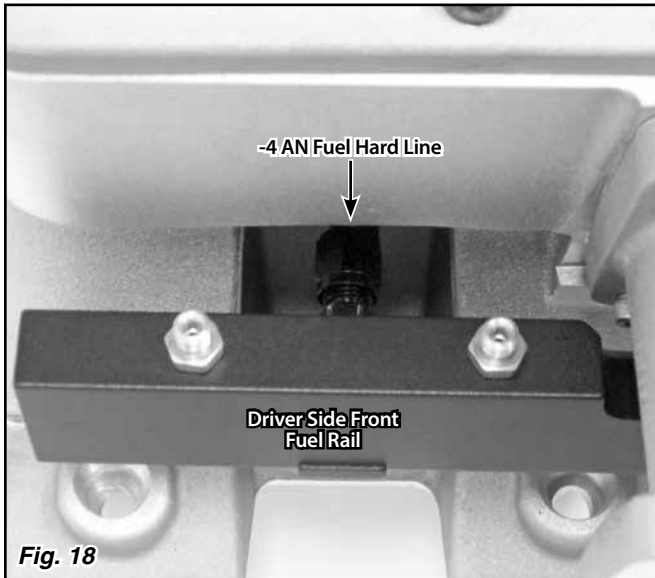

Fig. 18
Step 17: Position the injectors to properly orient the wiring plugs. Apply silicone lubricant to the bottom injector O-rings, and insert the injectors into the injector bosses in the lower manifold by applying gentle downward pressure on the fuel rail. **Fig. 18** Do this for all four fuel rails.